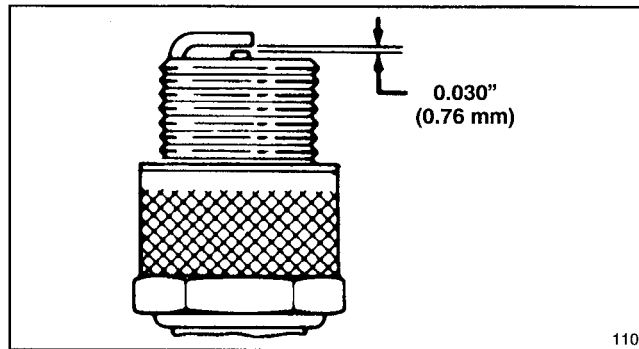

Figure 38
3. Set air gap between electrodes of new spark plug at 0.030" (0.76 mm) (Fig. 38). Next, install spark plug in cylinder head. Tighten plug to 15 ft-lb (20.4 N·m).